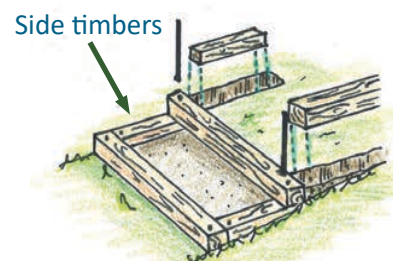

Figure 5
**Timbers:** If you are using side timbers (see Figure 5, page 27), add the length of each side timber (the tread depth) to the step width to get the total length of timber you'll need per step. As a guide, use the following equations to estimate the length (in feet) of timber material you will need:
**STEP 8 – Build second step.** To build the next step, measure from the front of the first riser timber and mark the tread depth on the side timbers with a pencil. Align the front of the second step riser timber with the pencil lines on the side timbers of the step below. Secure the riser timber to the side timbers using 12-inch galvanized spikes (Figure 5). To make it easier to drive the galvanized spikes into the timber, you can pre-drill holes to about five inches deep.
**STEP 9 – Excavate side timbers.** Set and anchor side timbers by driving the steel rebar through the drilled holes on the end of each timber into the ground (Figure 5).